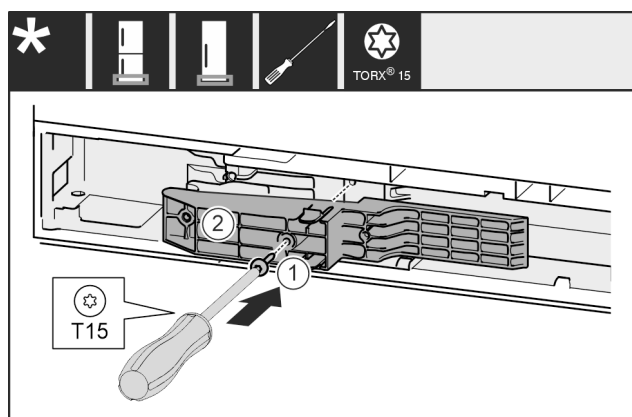

Fig. 47*
- ▶ Insert adapter Fig. 47 (1) in the recess on the handle side.*
- ▶ Tighten screw Fig. 47 (2) with screwdriver.*